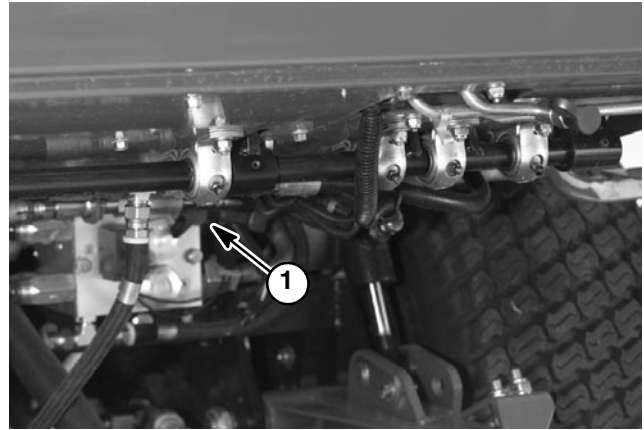

Figure 18
3. Install test gauge with hydraulic hose attached to manifold test port for the deck to be tested (Fig. 18, 19 and 20).